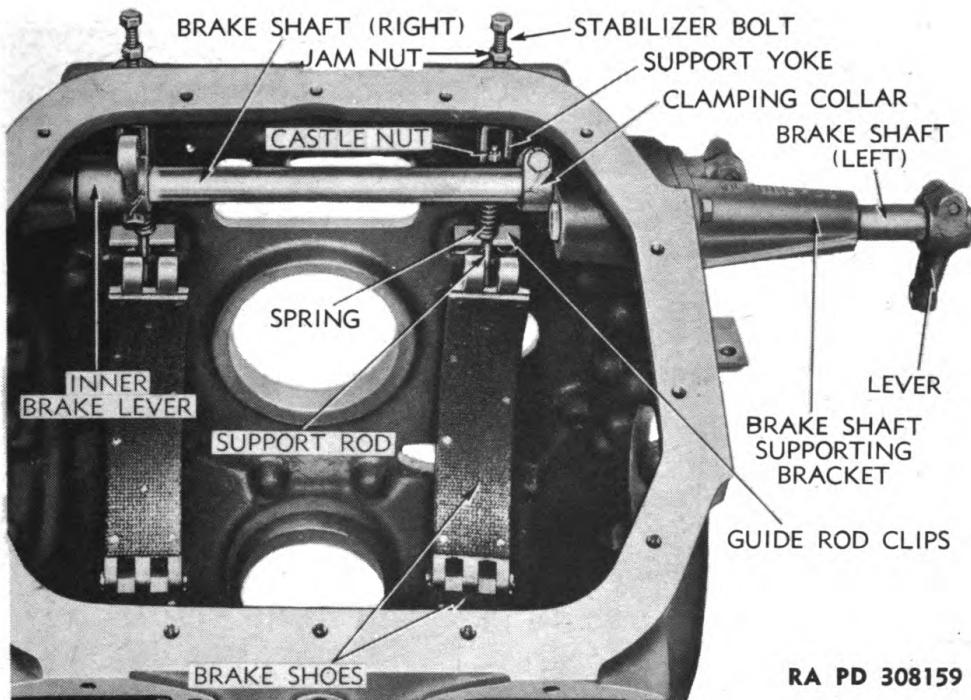

Figure 57 — Steering Brake Components
b. Install Brake Control Shafts in Differential Housing (fig. 57). If old bushings were removed, install new bushings in outer ends of holes in brake shaft supporting bracket, using remover and replacer (41-R-2376-290) or arbor press. Leave bushings flush with outer side of bracket. Bushings must also be installed in inner ends of holes
(1) **INSTALL LOWER BRAKE SHOES IN CASE.** Place two connected brake shoes of each steering brake assembly in housing (fig. 57). The lower end of support rods connected to the rear brake shoes slip into the guide rod clips. Place springs on rods above clips, then place support yokes on rods. Insert castle nuts into slots in yokes and start nuts onto rods by turning nuts with yokes. Then screw stabilizer bolts with jam nuts installed against head, through top of case and into yokes.